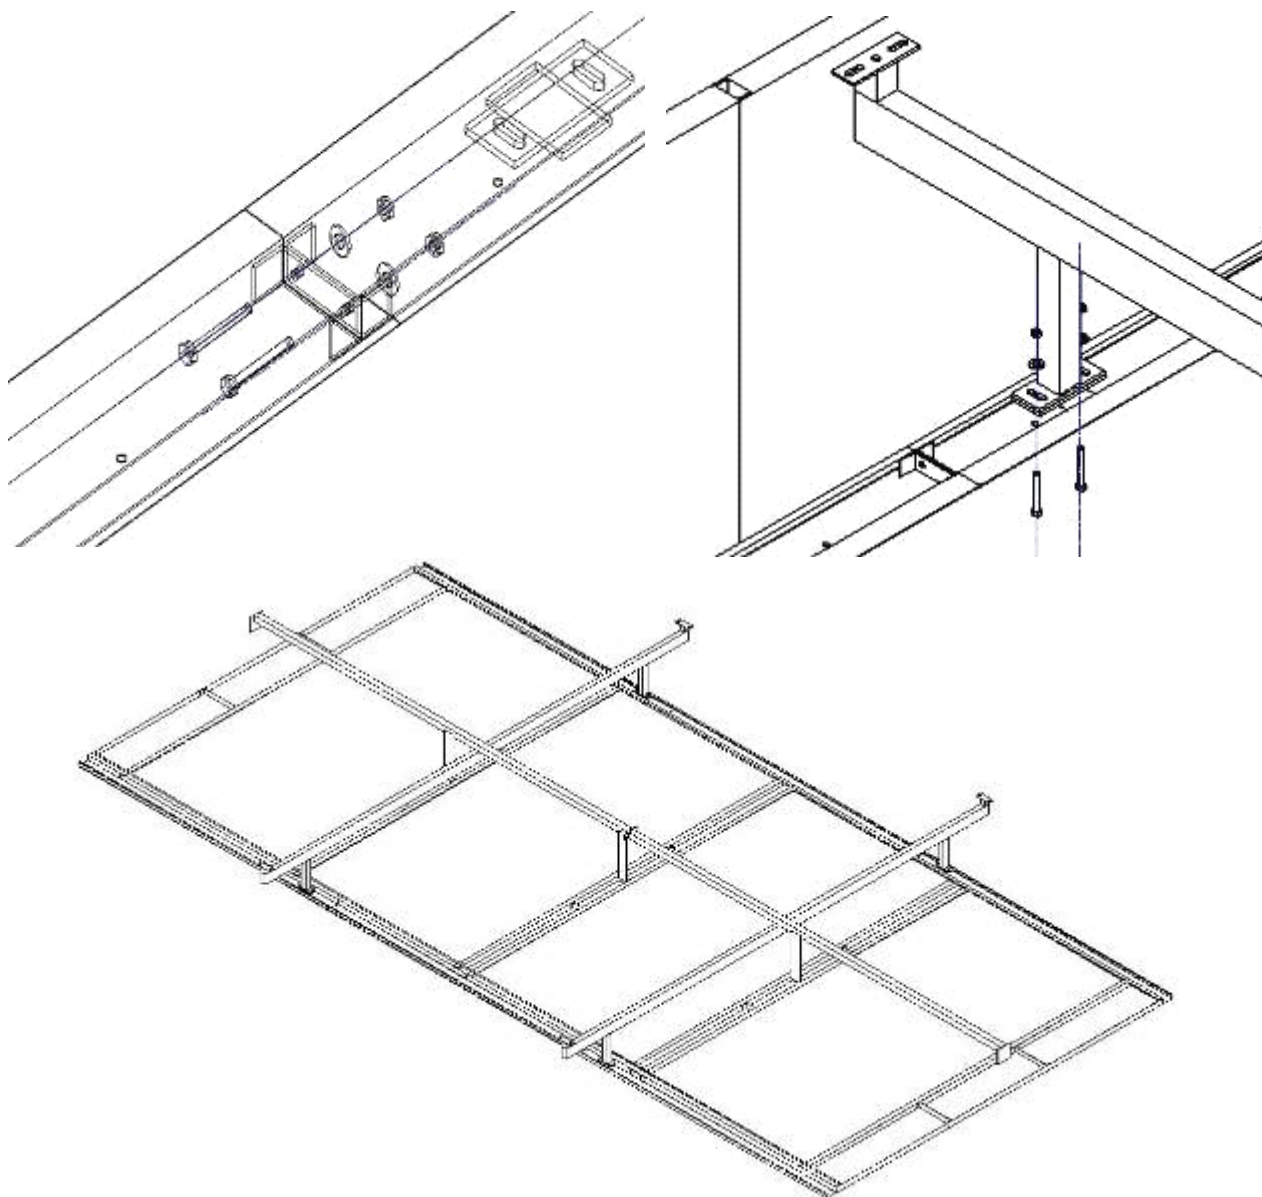

Fig. 3.14
2. Installate the top sealed board and cotton slot shown in Fig.3.14